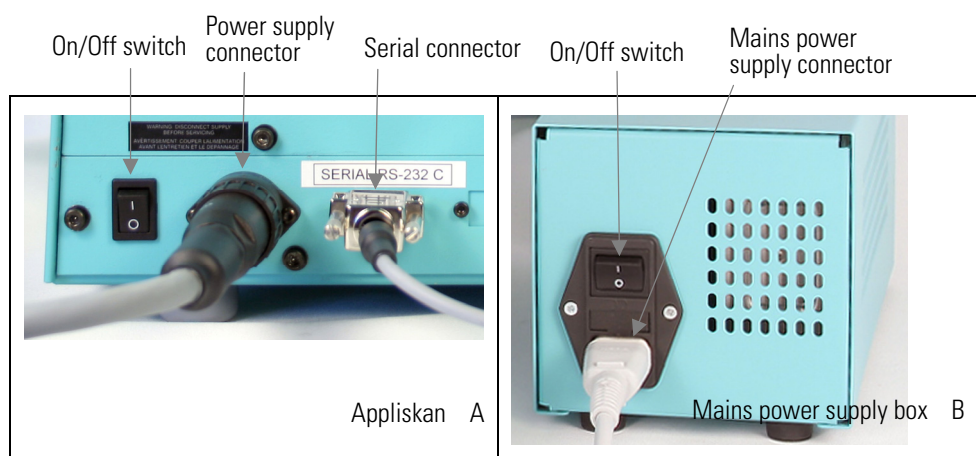

Figure 3–19. Connecting the mains and power supply connectors
1. First connect the fixed power supply cable of the mains power supply box to the power supply connector (Figure 3–19 A) on the right-hand side of the back panel of the Appliskan.
2. Then connect the RS-232C serial connector on the back panel of the Appliskan (Figure 3–19 A).
4. Finally connect the mains power supply cable to the mains power supply connector in front of the mains power supply box (Figure 3–19 B) and connect it to a correctly installed line power outlet that has a protective conductor that is grounded.
First switch the mains supply power box (Figure 3–19 A) ON and then the Appliskan ON (Figure 3–19 A).